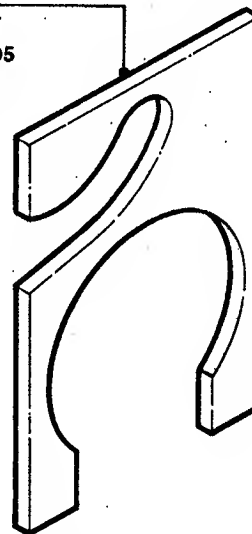

FIGURE 4.3
- (c) Install required number of snap-in belt spacers behind channel pivot until the 1-1/4" distance between belt is maintained. See Figure 4.3.